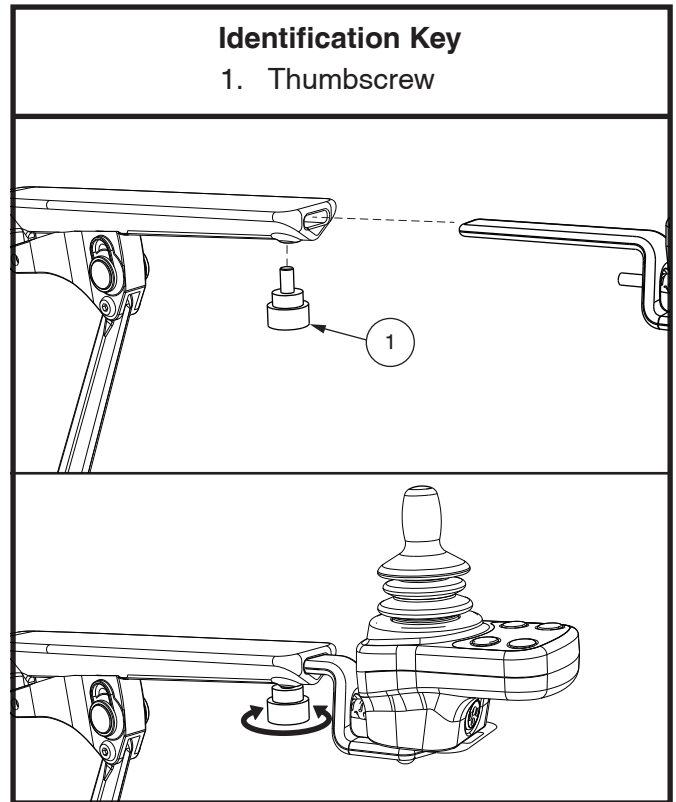

Figure 6. Armrest Component Removal/Installation
4. Insert the upper bracket of the joystick into the fixed tube of the armrest and then tighten it with the thumbscrew. **See figure 6.**
3. Loosen the thumbscrew and remove the controller from the armrest. **See figure 6.**